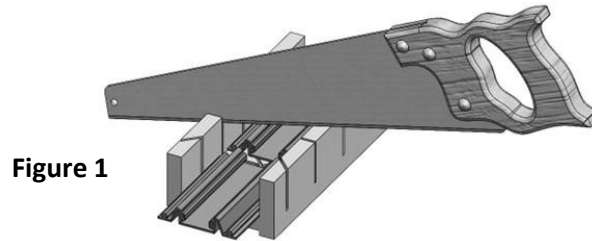

Figure 1
1. After determining the angle needed, use a miter box and a non-serrated saw (teeth removed) to cut ends of seal clean, straight and square. **See Figure 1**